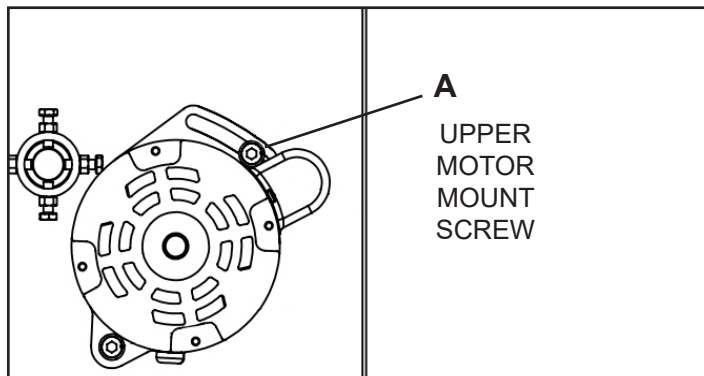

FIGURE 24
1. Loosen the top motor mount Screw (#87) and pivot the motor to release tension on the drive belt. FIG. 24, A.
2. Remove the tension from the drive belt by loosening the top Motor Mount Screw (#87) and pivoting the motor. See FIG. 24. Take the old belt off of the two pulleys.